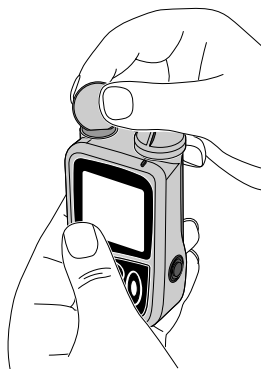

Figure 3
1. Put the edge of a coin into the slot on the battery cap and turn it counter-clockwise (left) to open it (see Figure 3). Remove the old battery (if present). Discard used batteries according to local laws and requirements.